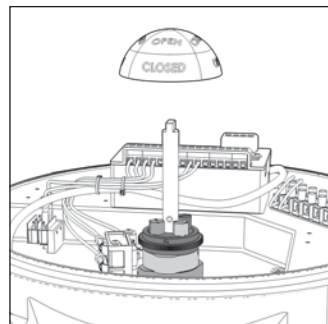

Figure 7. Indicator rotor pulled up from the indicator shaft.
1. Remove the indicator rotor by pulling away from the indicator shaft as shown in Figure 7.